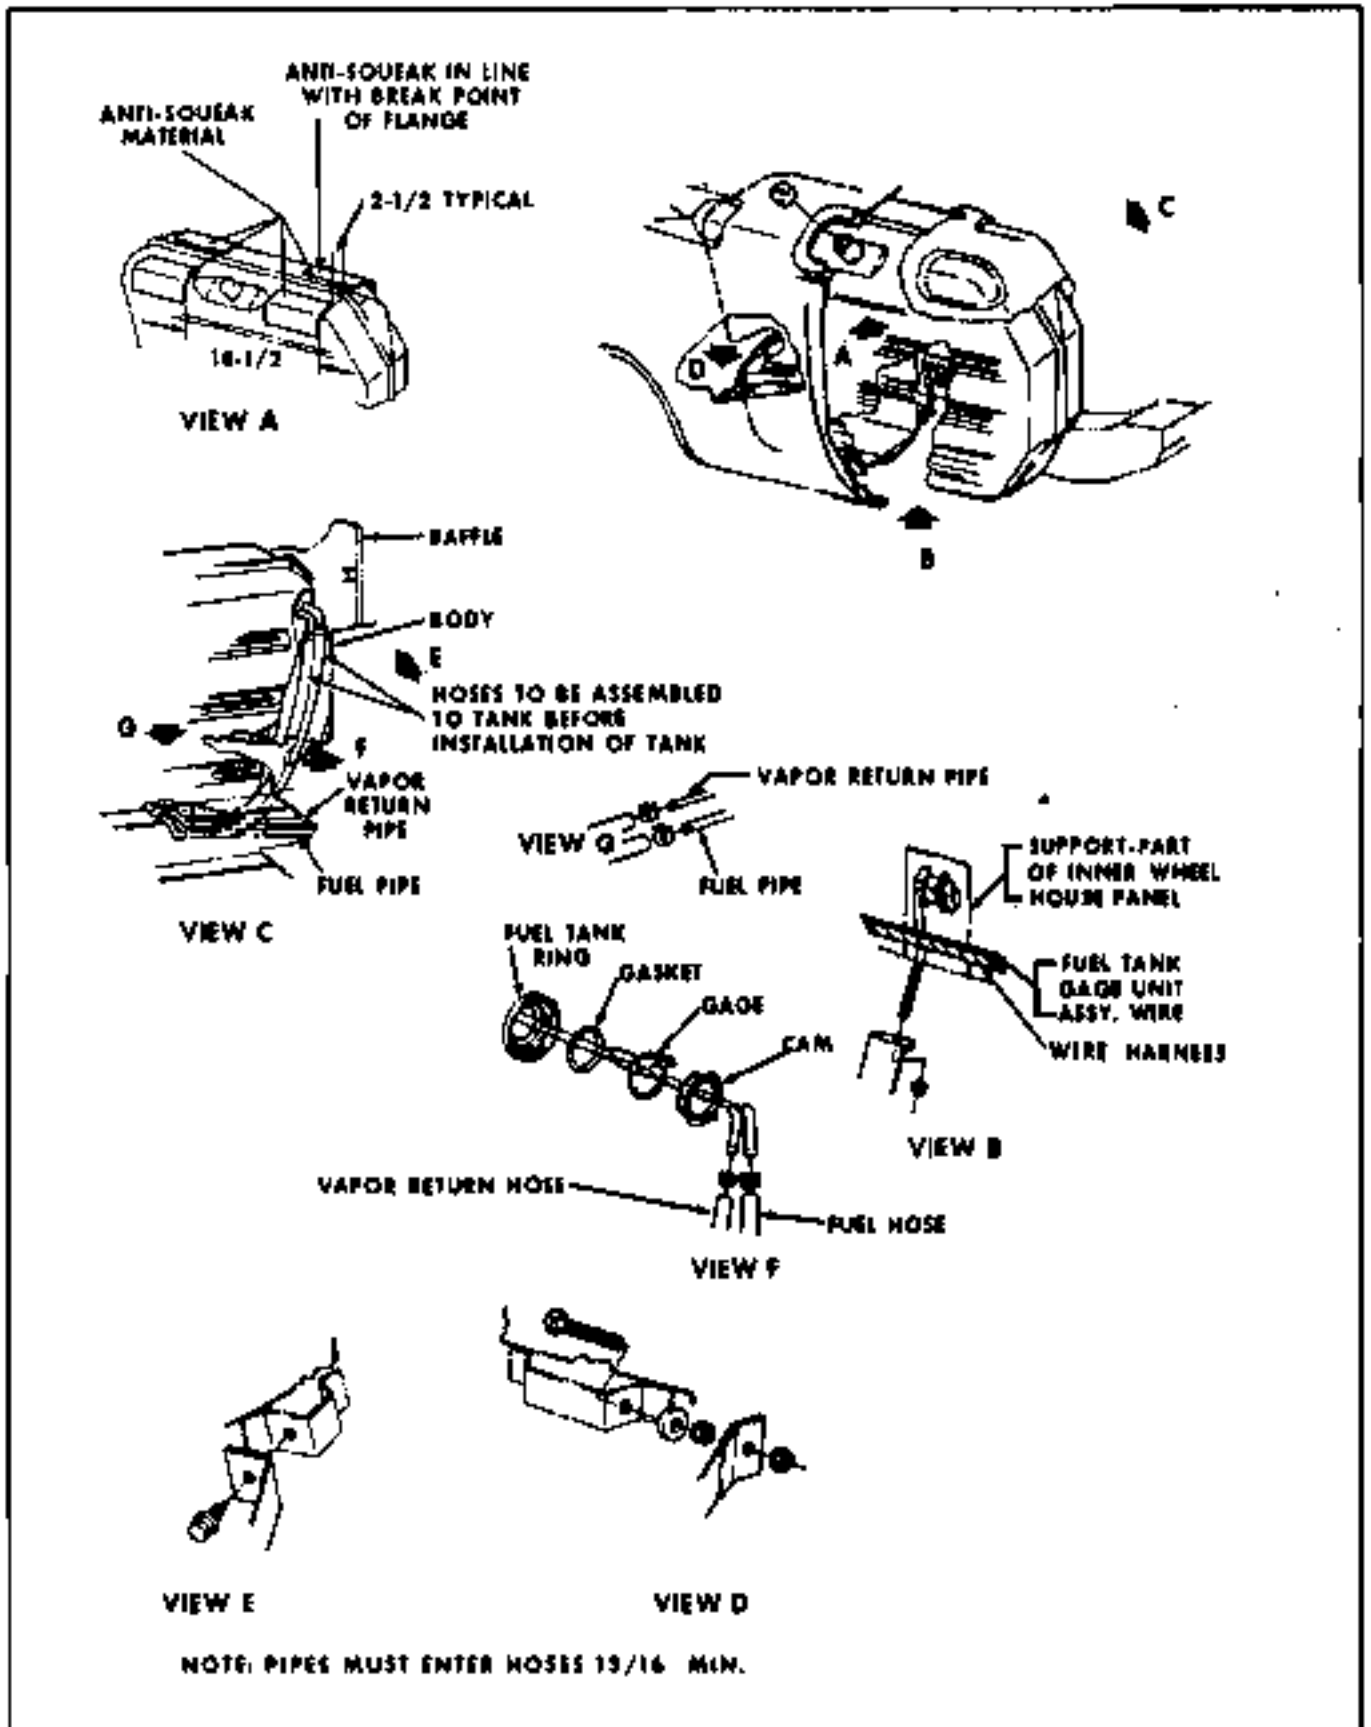

Fig. 8-5 Installation of Fuel Tank Pontiac Station Wagon
2. Remove screws retaining baffle under left rear wheel well (Fig. 8-5 or 8-6).